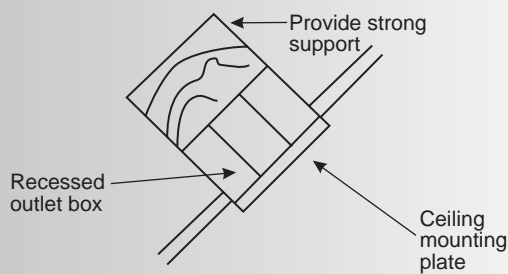

Fig. 3
**NOTE:** You may need a longer downrod to maintain proper blade clearance when installing on a steep, sloped ceiling. (Fig. 3)